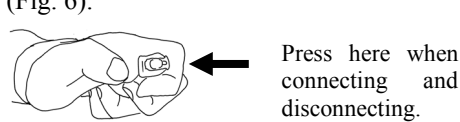

Figure 5: Tubing connections are disconnected by pressing in the silver button on the side of the connector.
2. Disconnect the two ends of the hose on the Splint by pressing the silver button (Fig. 5).